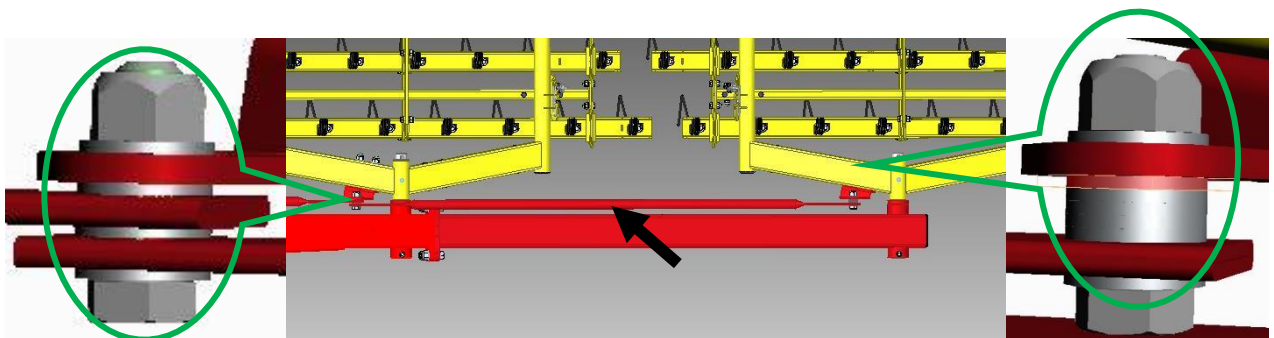

Figure 11
- Install another folding linkage for the outer tine section with the M14x45 bolts and M14 nuts as well as 4 M14 washers (Figure 11).
- On the outer tine section, fasten the folding linkage with the M14x45 bolts and M14 nuts as well as 7 M14 washers. The bolts are tightened firmly enough so that the linkage can still move (Figure 11).